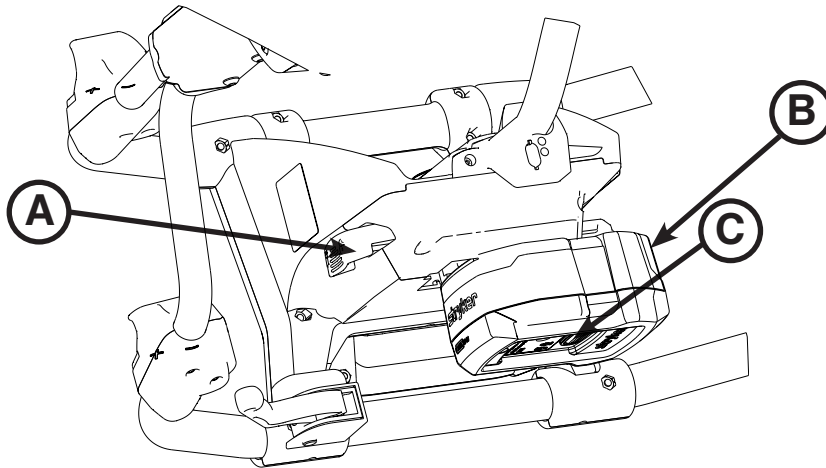

Figure 47: SMRT Pak Removal and Replacement
1. Press the red one hand release button (C) or press the battery release button (A) to release the SMRT Pak (B) from the cot as shown in Figure 47.